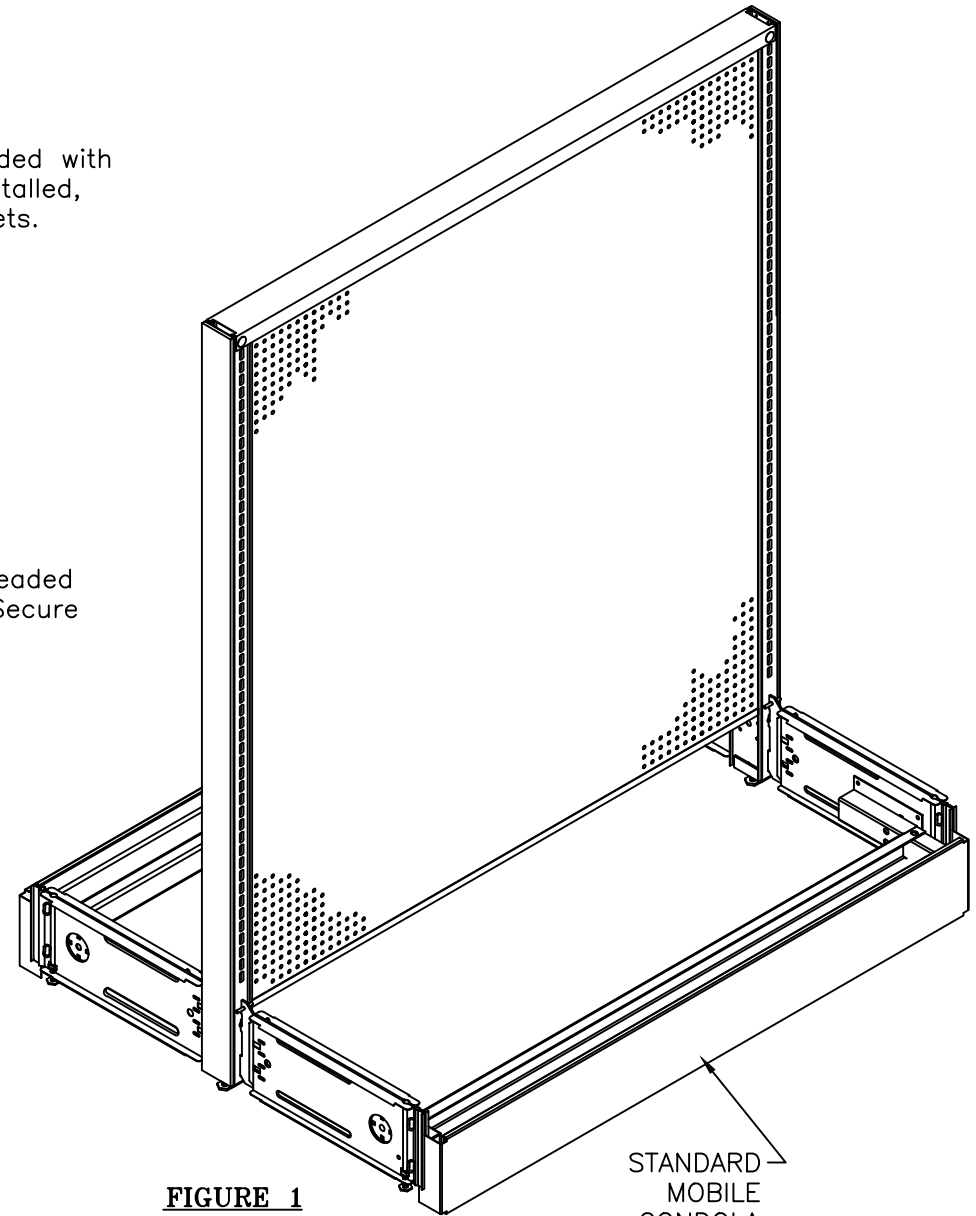

FIGURE 1
STEP 1. Assemble standard mobile gondola per instructions provided with it. Except, on the end that the mobile deck will be installed, do not install hardware in the end of those base brackets. (See Figure 1)